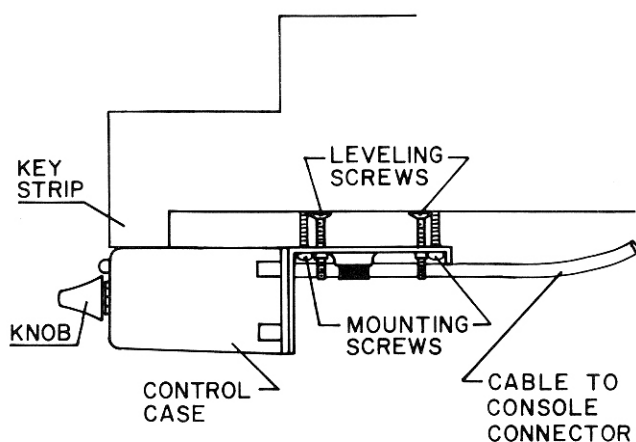
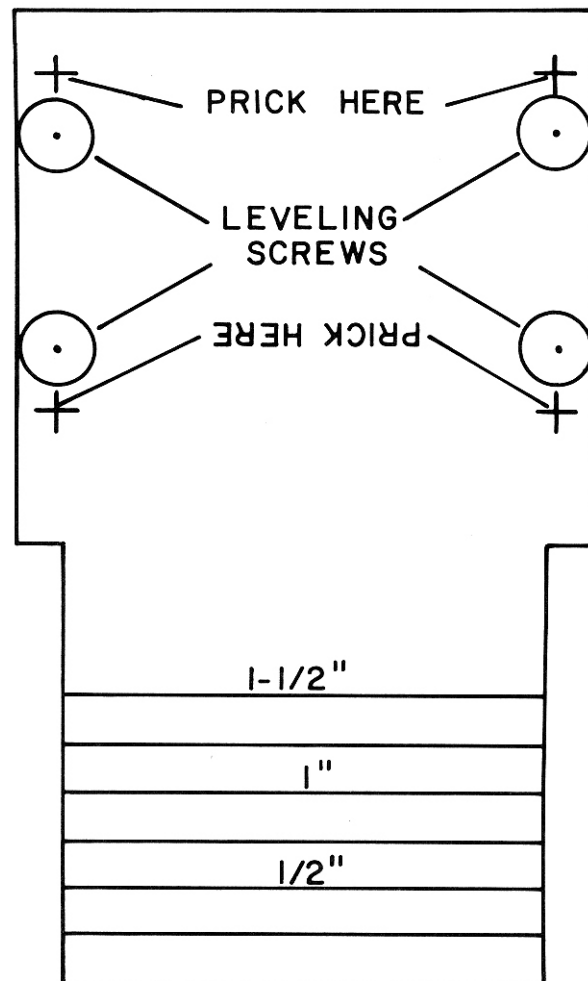

Figure 1. Control Mounted on Organ
Figure 2. Control Location and
CONTROL UNIT MOUNTING (figures 1, 2)
3. Indicate the control location on the under side of the shelf. Cut out the paper template (figure 2) provided in this instruction sheet.
6. Put the four leveling screws (flat-headed machine screws) into the holes indicated in figure 2, WITH THE HEADS UPWARD. Hold the control mounting bracket in position at the location marked for mounting. Adjust each of the four leveling screws so that the control is positioned just below the keybed, and is level. (See figure 1) (Be sure the control knobs do not protrude too much.)